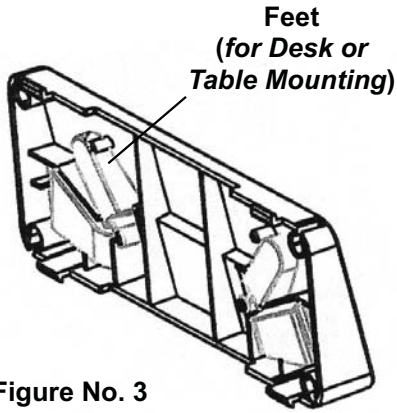

Figure No. 3
7. Referring to Figure No. 3, make sure the four (4) feet of Display Wall Bracket "A" are placed in the bracket.